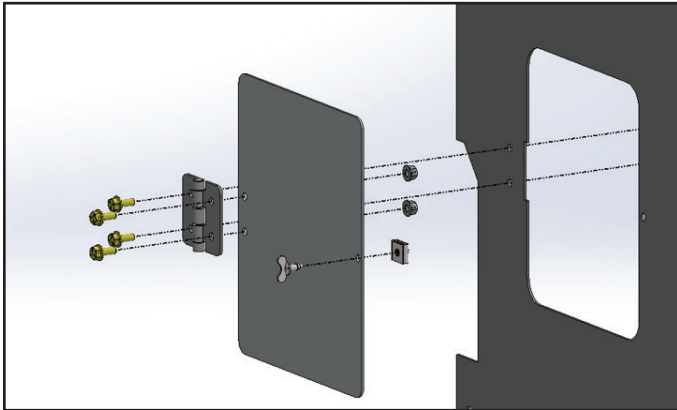

Figure 1 Unfasten existing doors and hardware from existing side cover.
2. Unfasten the existing doors from the existing side cover panel on the street side. Retain the hinges, flange bolts, and flange lock nuts (Figure 1); discard the quarter turn wing head and wing head receptacle.